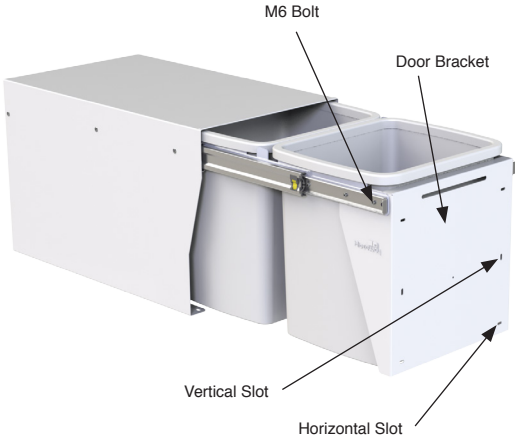

FIG 2 - Door Pull Model
Step 4 – Mounting and Adjusting the Door Panel (Door Pull Models Only) Refer FIG 2